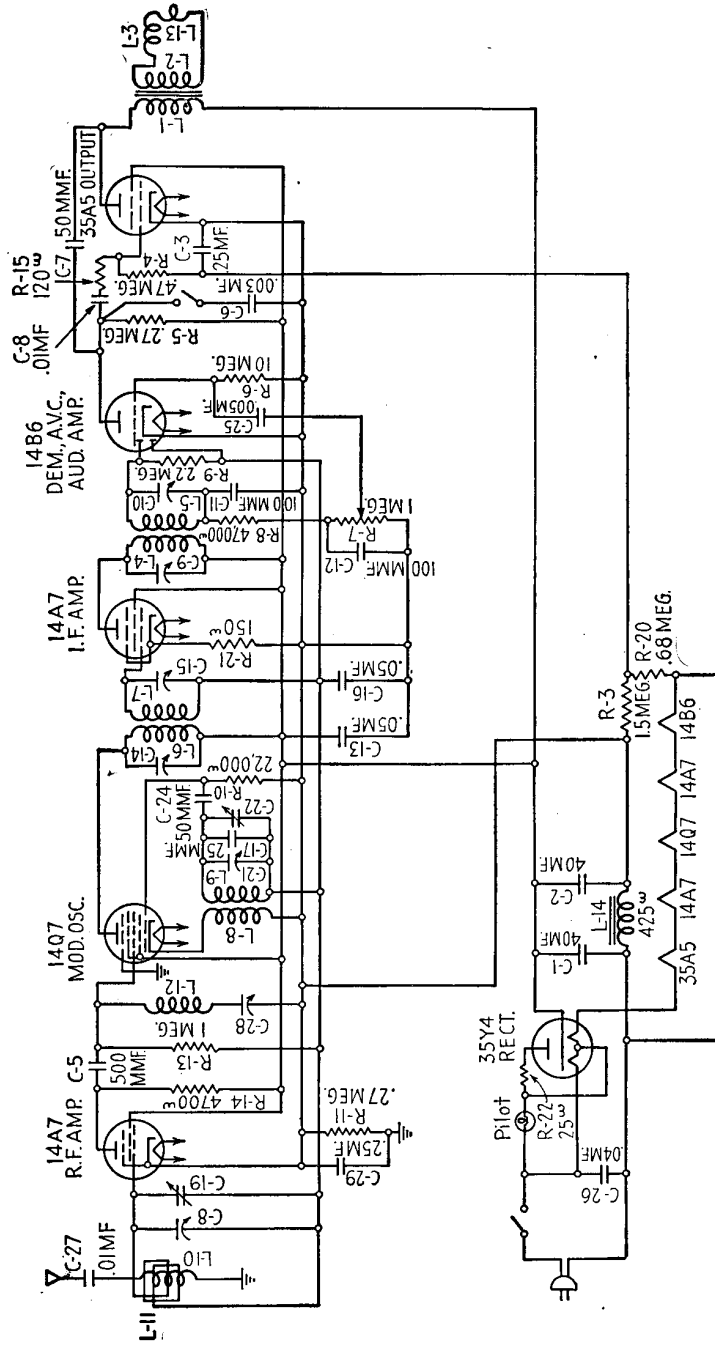

Fig. 16-10.—Schematic diagram of the Stromberg-Carlson No. 1000 receiver.
In loop receivers, the trap is usually placed in the converter signal grid circuit, where it serves a similar purpose by providing a low-impedance path to ground for signals at the intermediate frequency, which may be present in the converter signal grid circuit. Coil *L-12* and condenser *C-28* make up this type of wave trap in the receiver of Fig. 16-10.
RF Stage Followed by an Untuned Converter.—Many receivers employ an RF stage that is resistance-coupled to the converter signal grid. This arrangement gives the receiver some of the advantages of an RF stage while using only two tuned circuits: the RF grid and the oscillator. The Stromberg-Carlson No. 1000 receiver shown in Fig. 16-10 uses this type of circuit.
The coupling between the RF and the converter tubes consists of RF plate load *R-14*, coupling condenser *C-5*, and converter signal grid load *R-13*. The circuit composed of *L-12* and *C-28* in the converter signal grid is a wave trap tuned to the intermediate frequency of the receiver. Similar circuits in other receivers use different values for the components in the resistance-coupling circuit. The plate load varies from 5,000 to 10,000 ohms. The coupling condenser varies from 0.0001 to 0.0005 mfd. The grid-load resistor is often smaller than the one shown in the diagram, 25,000 to 100,000 ohms being more usual. Another circuit difference is that some receivers bring the grid-load resistor to ground or common negative rather than to the AVC bus, as shown in Fig. 16-10.
4. The receiver of Fig. 16-10 gives poor reception in the customer's home although it operates normally on the service bench. A long out door antenna was suggested and installed. The reception was greatly improved but the receiver is now troubled with code interference all over the tuning range. What is likely to be wrong and how should it be checked?